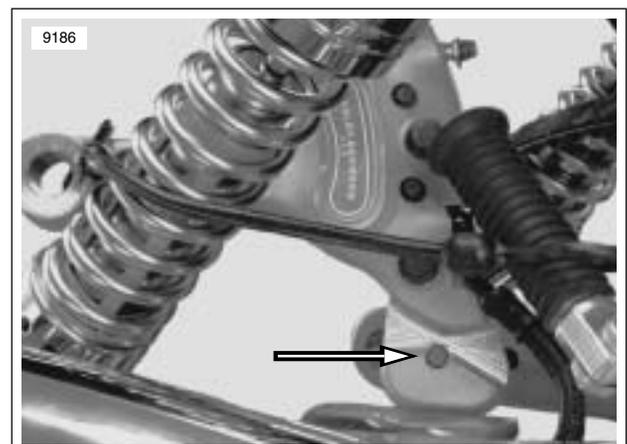

Figure 2-73. Secured Caliper with Rubber Bumper
8. See Figure 2-73. Slide rear caliper up off of brake disc towards front of motorcycle. Using a bungee cord, secure caliper to right side shock. Be sure rubber bumper stays with caliper.